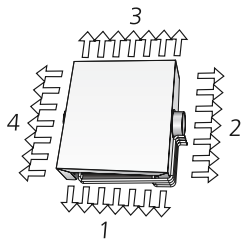
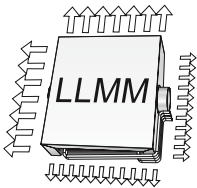

Figure 1. Top view of nozzle setting single-module unit, sides 1-4.
Figure 2. Example of nozzle setting for a single-module unit - LLMM.
* All four sides of the unit can be adjusted individually. The description of the nozzle setting follows the order shown in figure 1. See example shown in figure 2.